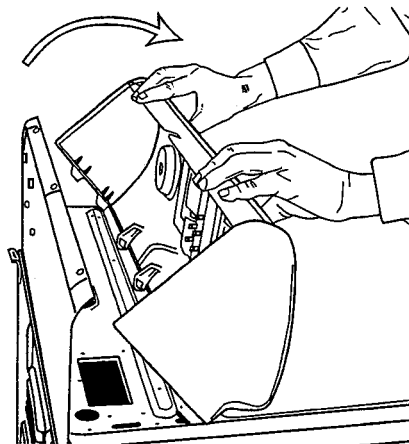

Figure 4-4
6. Carefully lift and roll the console forward onto the top cover. You now have access to the console components and wiring, (See *Figure 4-4*).